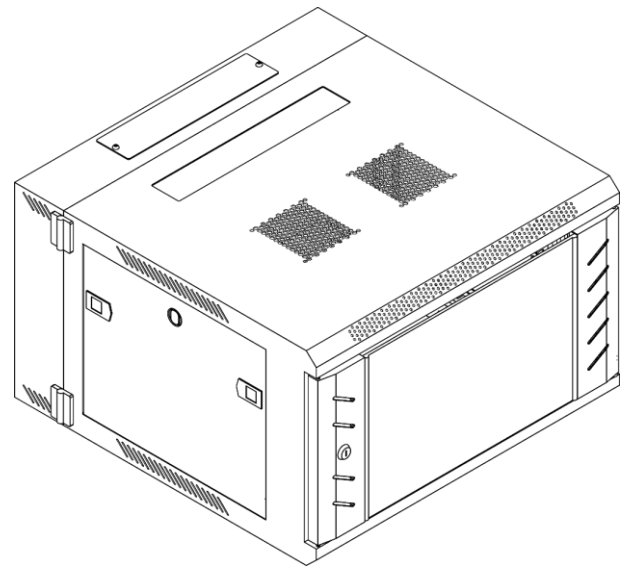

Fig. 25
09) Use the **keys (H)** to lock and unlock the doors. The cabinet is now ready for use, as shown in Fig. 25.